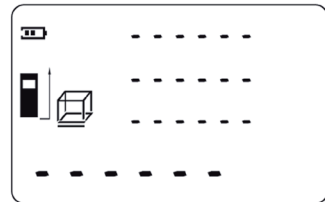

Fig. 11
1. Press the Mode button (4) to select the volume measurement mode. The flashing line in the symbol  indicates the length to be measured (fig. 11).